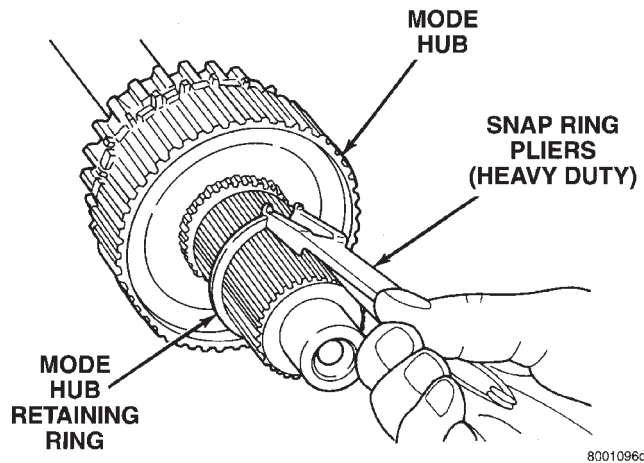

Fig. 28 Mode Hub Retaining Ring Removal
(1) Remove mode hub retaining ring with heavy duty snap-ring pliers (Fig. 28).